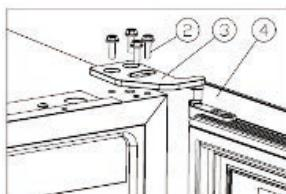

Figure 1
- Unscrew the M5*16screws ②, dismantle the right upper hinge ③, and remove the door.[Figure 1].